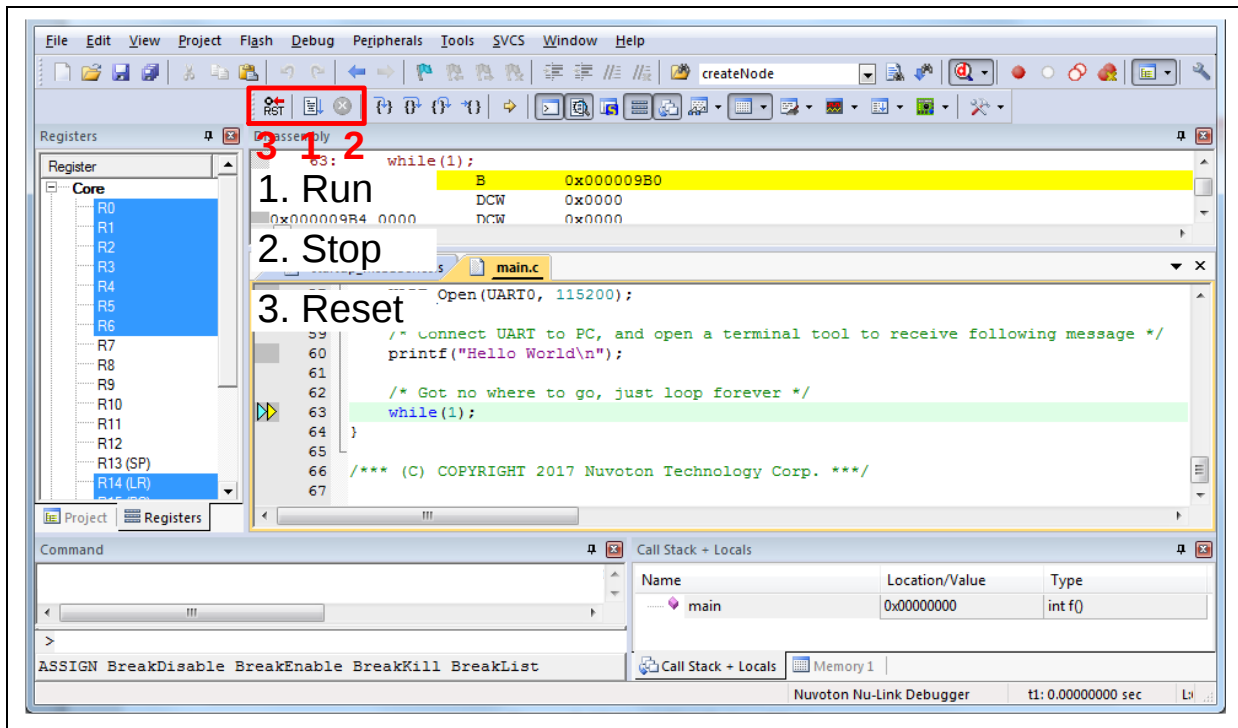

Figure 5-12 Keil MDK Debug Mode
5. Figure 5-12 shows the debug mode under Keil MDK. User can debug the project under debug mode by checking source code, assembly language, peripherals' registers, and setting breakpoint,